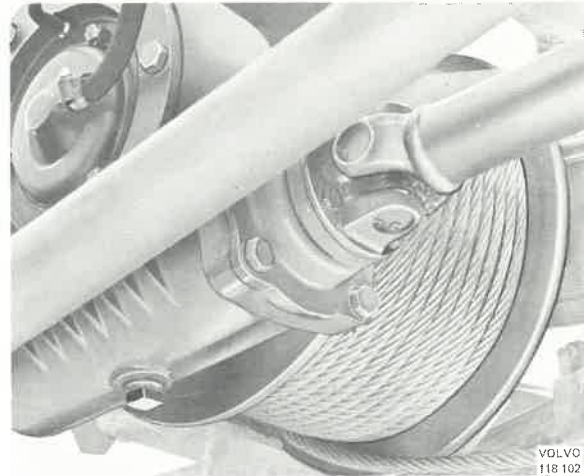

Fig. 92-32. Removing the propeller shaft
2. Disconnect the propeller shaft, see Fig. 92-32, from the winch flange.